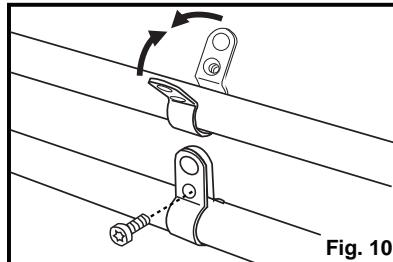

Fig. 10
- Squeeze the two ends of the clasp together and hold in that position. Secure the clasp with the screw (Fig. 10).